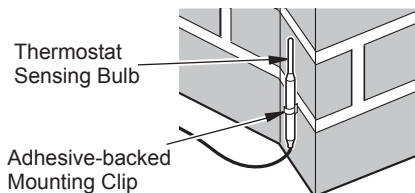

Figure 30 - Locating Thermostat Sensing Bulb on Masonry Fireplace
3. The thermostat sensing bulb may be located to the lower right front side of fireplace. Determine location of sensing bulb, but do not mount sensing bulb until step 4. If you have a masonry fireplace, see Figure 30 for location.